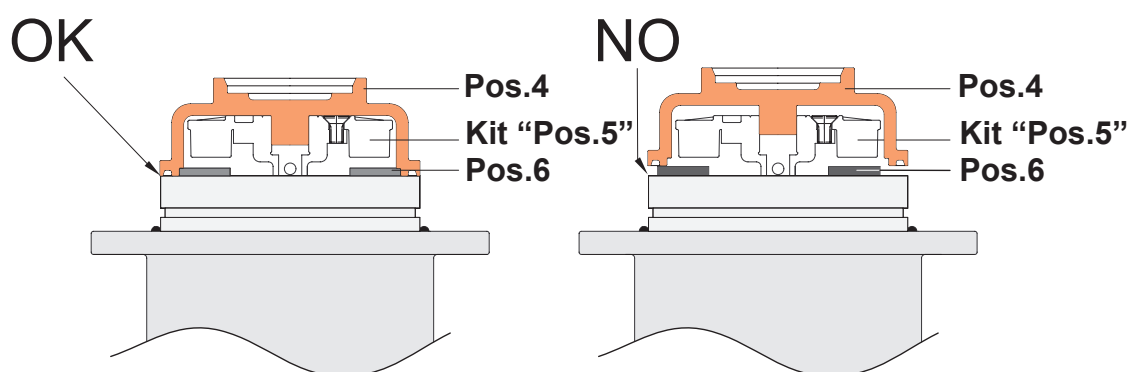

Fig. 9.04
- 9.2.5) Fit the diffusor on the impeller kit "pos.5", making sure to position the washer pos.6 correctly (see fig.9.04).